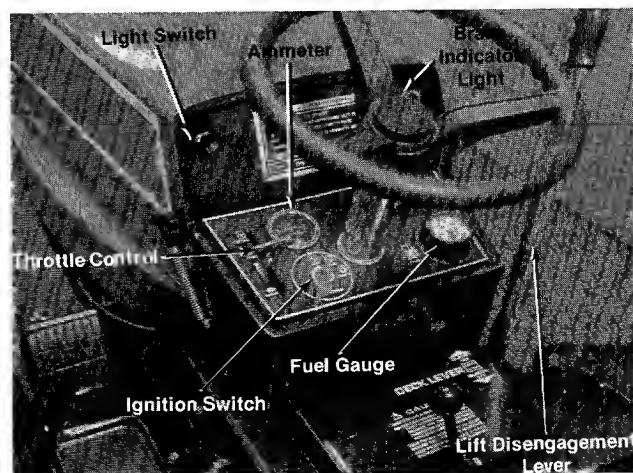

FIGURE 6. CONTROLS
**a. Throttle Control.** The throttle control is used to regulate the engine speed and choke the engine. The engine should be operated from  $\frac{3}{4}$  to full throttle when operating the cutting deck or snow thrower (optional). See figure 6.
**b. Gear Shift Lever.** The gear shift lever is used to shift into one of three FORWARD GEARS, NEUTRAL or REVERSE. See figures 6 and 7.
**g. Ammeter.** The ammeter registers the rate of battery charge or discharge. The ammeter should register on the plus side (+) when the engine is running in the fast position until the battery is completely charged. With a fully charged battery or with the engine idling the ammeter will not show a charge. See figure 6.
**h. Light Switch.** Pull the light switch out to turn on the lights. The lights will only operate when the engine is running. See figure 6.
**Electric Start.** See figure 6. Turn the key to the START position to start the engine. When the engine is running, let the key return to the ON position. To stop the engine, turn the key to the left to the OFF position and remove it to prevent accidental starting.
j. **Lift and Disengagement Lever.** It is used to raise the cutting deck. Pulling it all the way back and locking it disengages the blades. the engine will not start unless the lift and disengagement lever is in the disengaged position. See figure 6.
- Step 3. Place the lift and disengagement lever in the DISENGAGED position. See figure 6.
- Step 4. Set the throttle control in the CHOKE position. See figure 6.
To stop the blades, move the lift and disengagement lever (figure 6) into the DISENGAGED position. This raises the deck and disengages the blades.